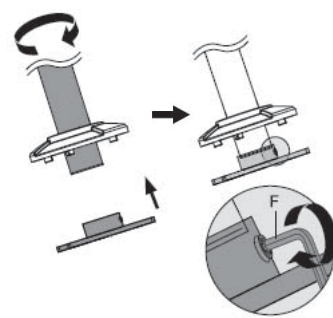

Figure 5
3. Connect the Steel Tube into the Grommet Plate and turn clockwise to tighten it. Use the 3mm Allen Key (F) to tighten the Hex Nut, see Figure 5.